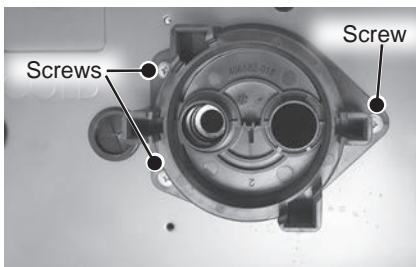

Figure 182 - Remove manifold screws
- 13** Locate the three (3) screws securing the cartridge manifold to the underside of the water heater cabinet as shown in Figure 182. Use a Phillips screwdriver to remove screws. Place screws aside in a safe place for reinstallation.
- 16** Locate the three (3) screws previously removed in **Step 13**. Use screws to secure cartridge manifold to water heater cabinet. See Figure 182.